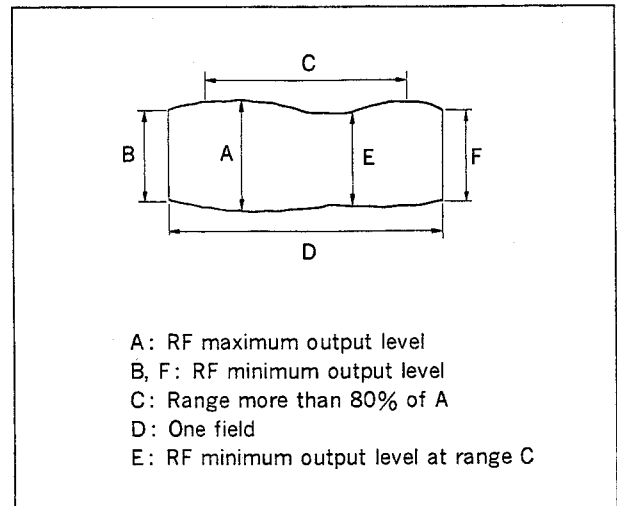

Fig. 6-11-1 Form of RF output wave shape
3. Press [STOP] to stop. Rewind the recorded portion, and press the [PLAY] button. Check the RF envelope (Fig. 6-11-1) and fluctuation (Fig. 6-11-2).